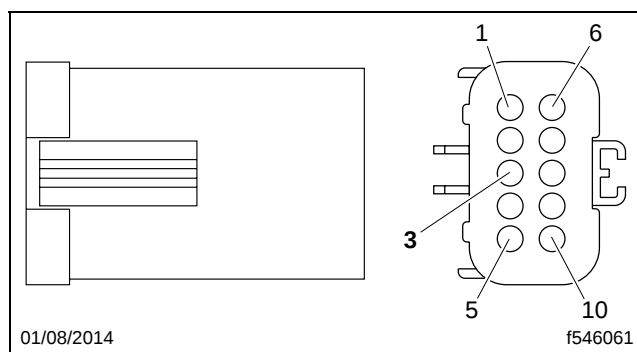

Fig. 2, Forward Chassis Harness Connector 3A
7. Insert the male terminal (23-13211-011) end of the new wire into cavity 3 on the forward chassis harness connector 3A. See **Fig. 2**.